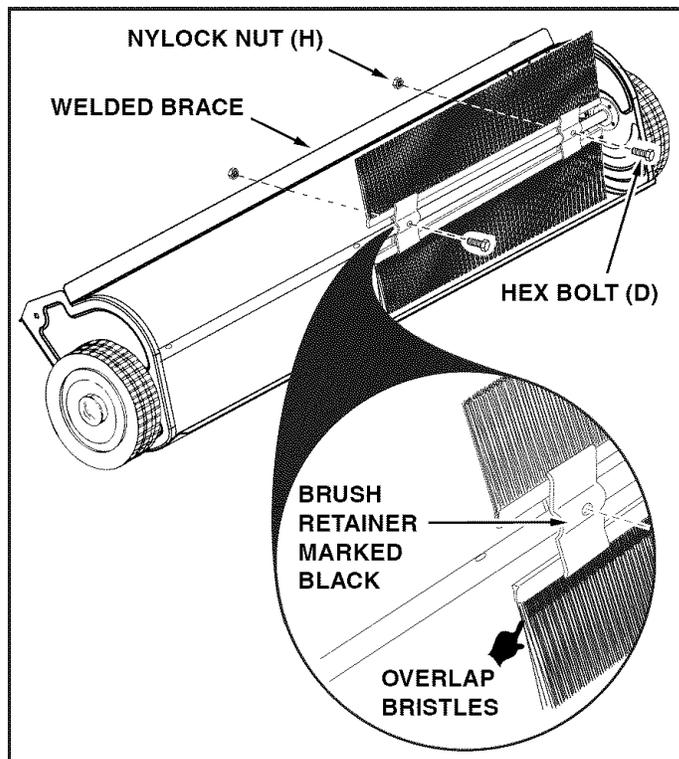

FIGURE 2
**IMPORTANT:** The overlap bristles at the bottom of each brush help support the back side of the brush for better sweeper performance. Be sure the sweeper is turned as shown in figure 2 to correctly assemble the brushes.
- Attach the brush assembly with the black brush retainer to the right end of the brush shaft using two hex bolts (D) and nylock nuts (H). The brush retainer marked with black ink must be placed to the **middle** of the sweeper. See figure 2.